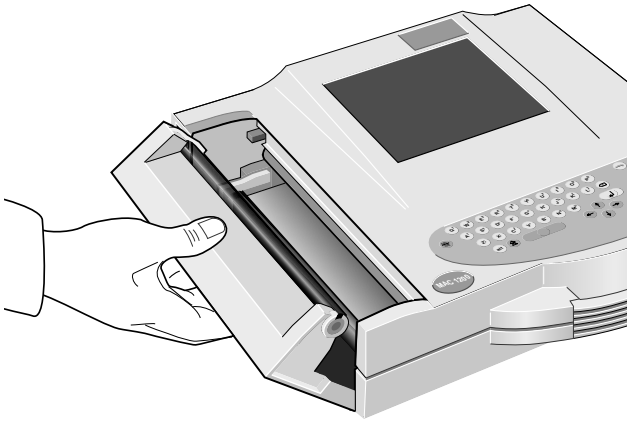

Figure 10-1. Opening the paper compartment door
- Pull up the handle of the paper door and fold it out (Figure 10-1).